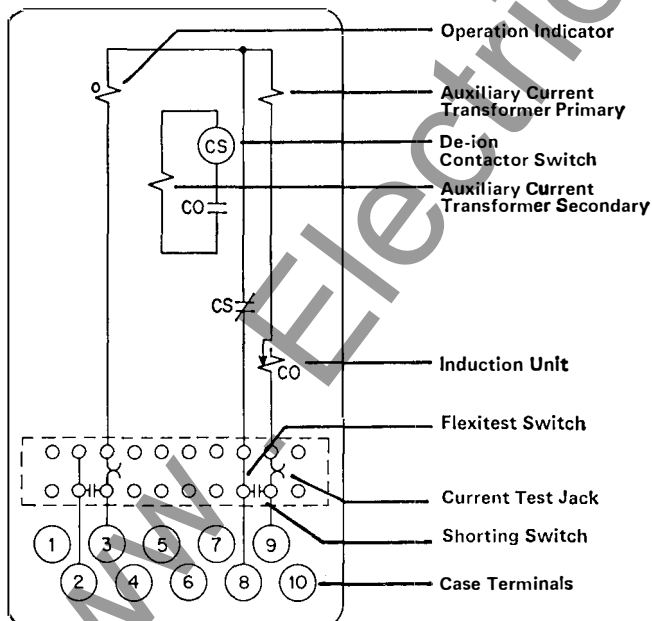

Fig. 12
As shown in figures 12 and 13, closing of the CO unit contacts energizes a De-ion® contactor switch (CS) whose contacts shunt the ac trip current through the breaker trip coil.
Burden of the auxiliary current transformer (figures 12 and 13) with 4 amperes applied is 4.6 volt-amperes with the CO contacts closed, and 5.7 volt-amperes with the contacts open.
Used in circuit opening type CO relays as shown schematically in figures 12 and 13. This scheme is applied where ac trip coils are used on the circuit breakers, energized by the line current transformers. When the CS coil is energized by a small transformer located within the relay case, its normally closed contacts open to remove the by-pass around the breaker trip coil, thus tripping the breaker.